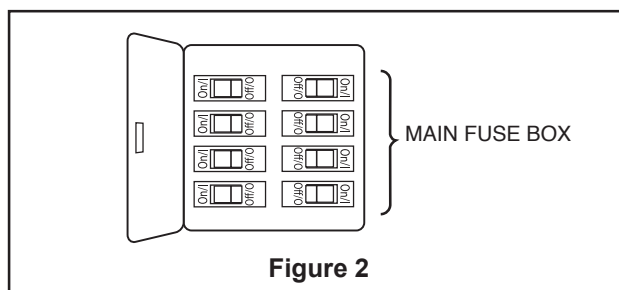

Figure 2
- 2. Restore electrical power to the outlet box by turning the electricity on at the main fuse box. (Figure 2)